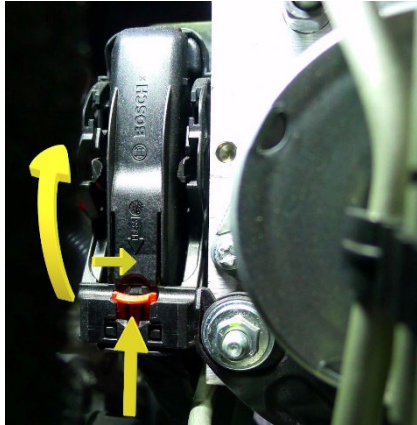
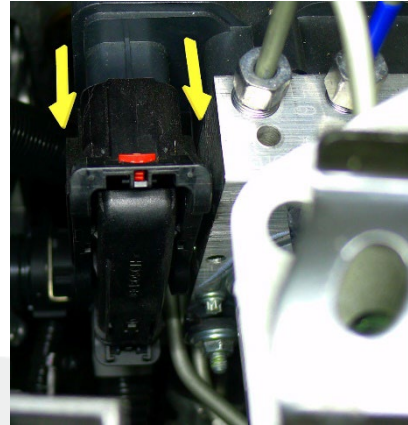

Figure 4
Figure 5
7. Slide the red locking tab, raise the lever (Figure 4), and then remove connector X151 from the HCU (Figure 5).